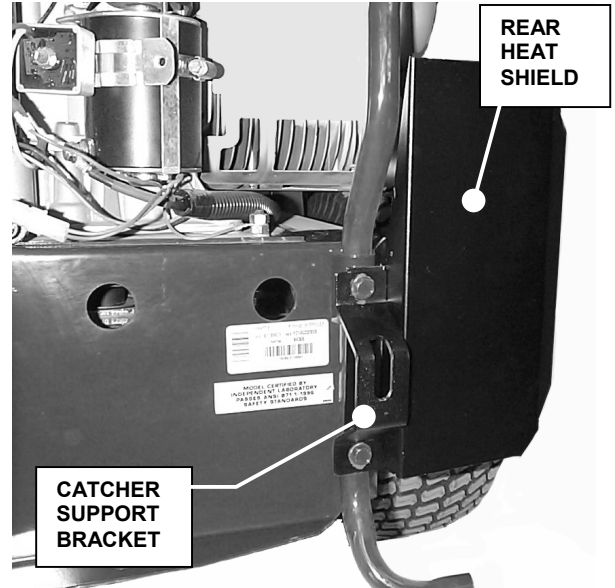

FIGURE 1.2
- D. Using two right bumper bolts removed in Step A, attach catcher support bracket and rear heat shield to the bumper. Tighten bolts securely. See Figure 1.2.